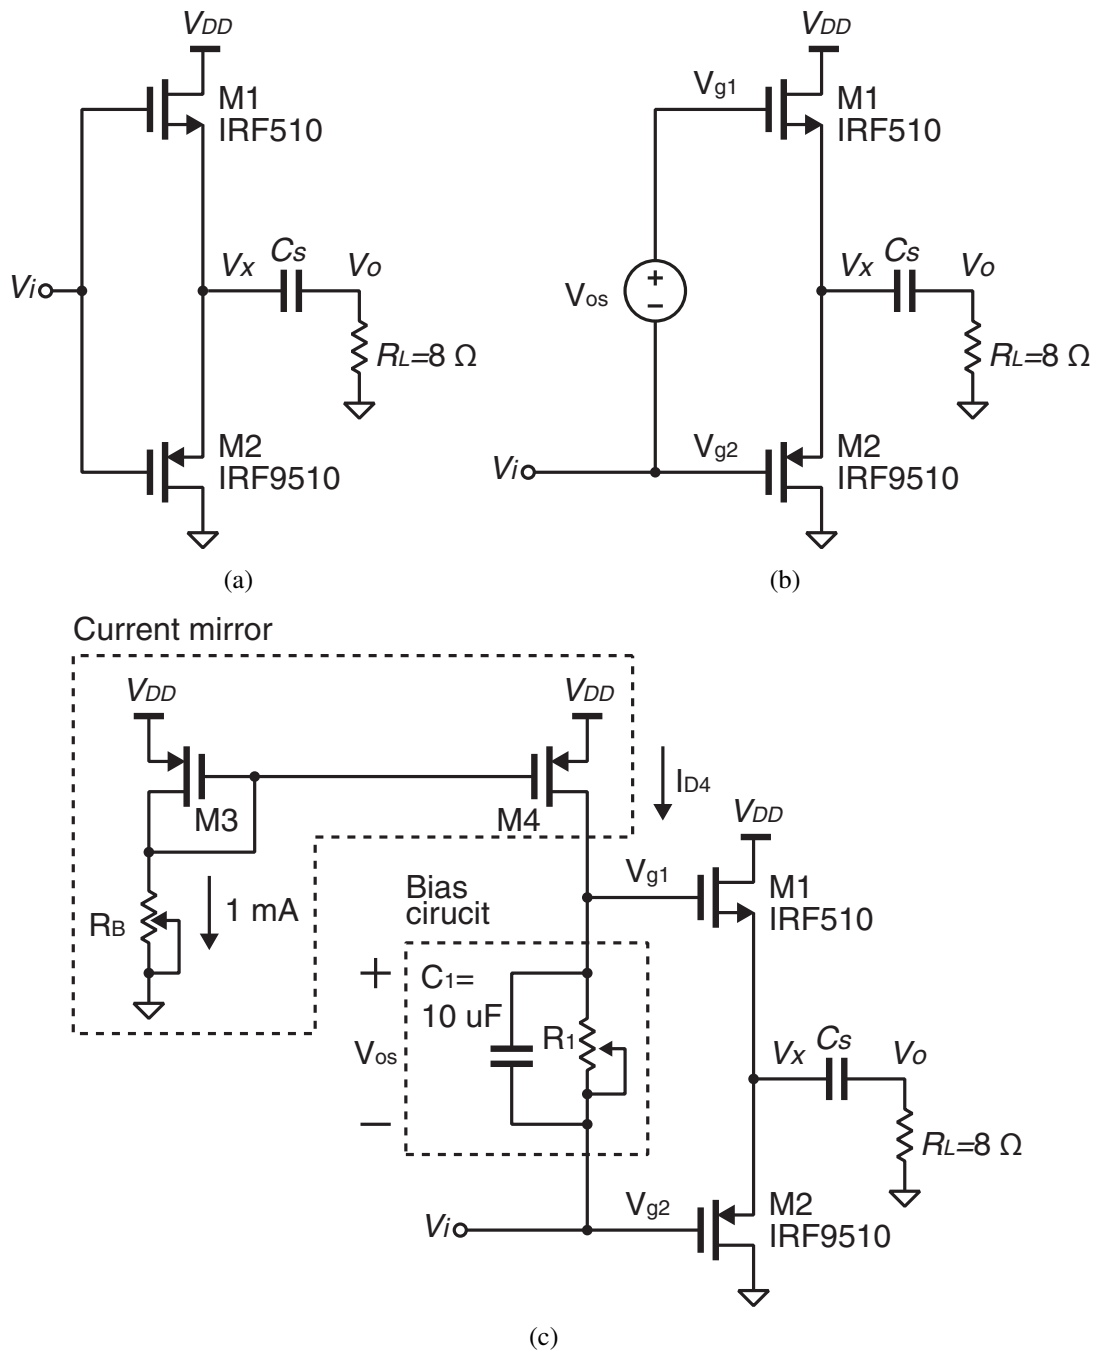

Figure 1: (a) Class B and class AB amplifiers with (b) ideal biasing and (c) bias circuit.
The push-pull power amplifier shown in Figure 1(a) can be used as a buffer because it has a very high input impedance and low output impedance. The push-pull power amplifier is basically a combination of NMOS and PMOS source followers which are responsible for sourcing and sinking current, respectively.
The problem with the push-pull amplifier in Figure 1(a) is the dead zone in which neither of the transistors turn on. This dead zone is caused by the threshold voltages of the transistors and it introduces discontinuity in the transfer characteristics. This mode of operation with a dead zone is called class-B operation.
The dead zone can be cancelled by applying a DC bias voltage (V_{os}) across the gates of the NMOS and PMOS transistors as shown in Figure 1(b). By setting $V_{os} = V_{TN} + |V_{TP}|$, the dead zone is canceled and either NMOS or PMOS transistor is always ON. Setting $V_{os} > V_{TN} + |V_{TP}|$ would also work, but consumes more power because both the PMOS and NMOS transistors can turn on at the same time. The best bias point is where V_{os} is slightly larger than $V_{TN} + |V_{TP}|$ so the dead zone is cancelled while the power consumption is kept low. This mode of operation is called class-AB operation.
The bias voltage V_{os} can be generated with a resistor (R_1) and capacitor (C_1) in parallel as shown in Figure 1(c). The bias voltage V_{os} is simply a product of I_{D4} , which is almost constant, and R_1 . The parallel capacitor C_1 provides a small-signal short between the gates of the power transistors.
2. Simulate the class-B push-pull power amplifier in Figure 1(a) with a 1-kHz 12-V_{pp} sinusoid input biased at 6 V and plot V_i , V_x , V_o , and I_{D1} . Simulate the circuit long enough (about
3. Determine the value of V_{os} and R_1 in Figure 1(c) required to cancel the dead zone using the plot in the previous step.
4. Simulate the class-AB push-pull amplifier in Figure 1(c) using the value of R_1 found in the previous step. Adjust the input signal source such that the output node, V_x is biased at 6 V with a 2- V_{pp} swing. Plot V_i , V_x , V_o , and I_{D1} . Simulate the circuit long enough (about 50 ms) to let C_s settle, and zoom in to the portion close to the end of the simulation to show a few cycles of the sinusoid. Make sure that the power transistors are biased just in class-AB region so the power consumption is kept minimum while the dead zone is cancelled. This step requires fine tuning of R_1 as well as the input signal source.